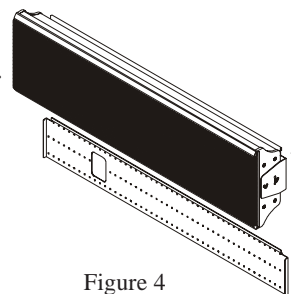

Figure 4
10. With two persons supporting the XR27 Loudspeaker, slowly raise the Loudspeaker together with the attached Wall Hanger Bracket straight up until the bottom of the loudspeaker has cleared the Wall Bracket. Refer to figure 4.